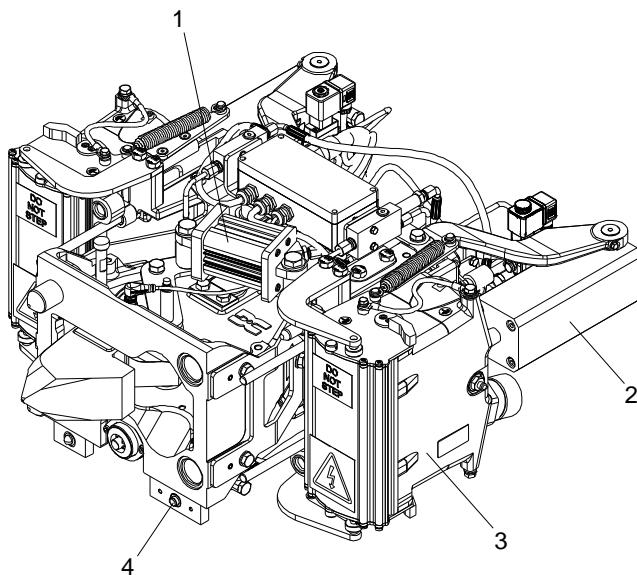

Figure 5-9: Test Automatic Coupler
1. Simulate coupling to an incompatible coupler by energizing the solenoid operating valve (V12). This is accomplished by moving the Electric Coupler Switch (ECS) on the Upper Control Panel to the Normal position. The electrical couplers (3) should not extend. If the electrical couplers extend, the key indicator valve (V5) needs adjustment or needs replacement. See Figure 5-9.
2. Simulate coupling to a compatible coupler by energizing the solenoid operating valve (V12) as well as pressing in the plunger (4) to activate the key indicator valve (V5). The electrical couplers (3) should now extend. If the electrical couplers do not extend, the mechanism indicator valve needs adjustment, needs replacement or the electrical coupler actuator (2) is faulty.
4. Order uncoupling from the driver's cab. This is accomplished by moving the Electric Coupler Switch (ECS) on the Upper Control Panel to the Isolate position. The electrical couplers (3) should retract and the coupling mechanism should be brought to uncoupled position by the uncoupling cylinder (1). If the electrical couplers do not retract, the solenoid operating valve (V13) needs replacement or the electrical coupler actuator is faulty. If the uncoupling cylinder is not activated, one or both of the electrical coupler retracted switches (ECR), the solenoid operating valve (V11) or the uncoupling cylinder is faulty.